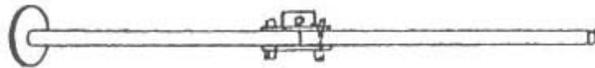

FIG. 1.
1. Assemble the upper and lower supporting leg with connecting tube by using 4 hex head screws $5/16'' \times 1/2''$. (Fig 1)